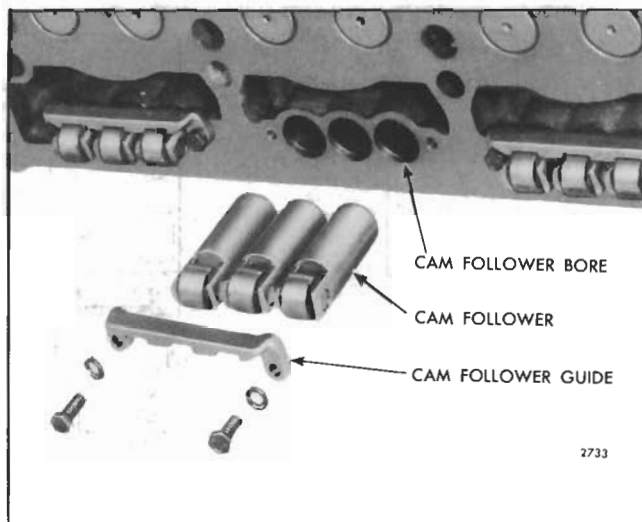

Fig. 4 - Cam Followers and Guide
1. Rest the cylinder head **on its side** (Fig. 4) and remove the cam follower guide.